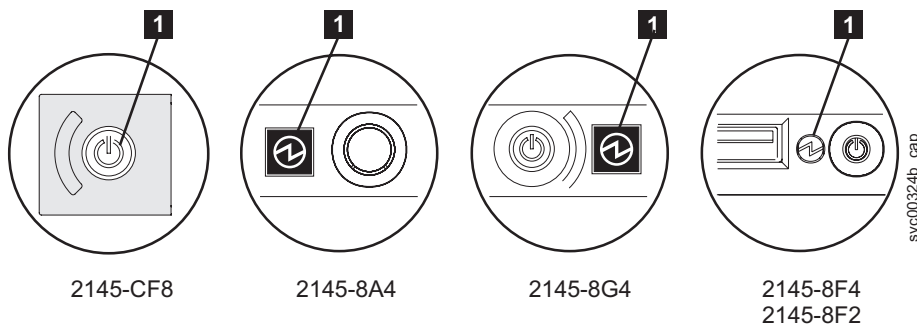

Figure 93. Power LED on the SAN Volume Controller models 2145-CF8, 2145-8A4, 2145-8G4, and 2145-8F4 or 2145-8F2 operator-information panel
1. Check the SAN Volume Controller models 2145-CF8, 2145-8A4, 2145-8G4, 2145-8F4, and 2145-8F2 power LED ( **1** in Figure 93).